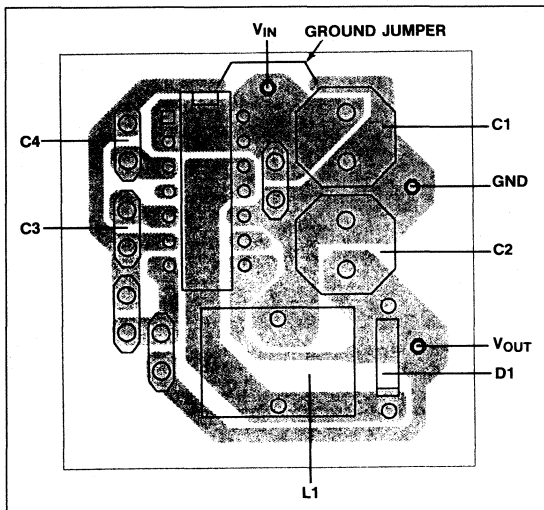

Figure 6. MAX739 Low-Noise PC Layout
The suggested low-noise printed circuit (PC) layout of Figure 6 is configured for the low-cost, radial through-hole components specified in the standard application circuit. The layout is hard-wired into the non-bootstrapped mode.